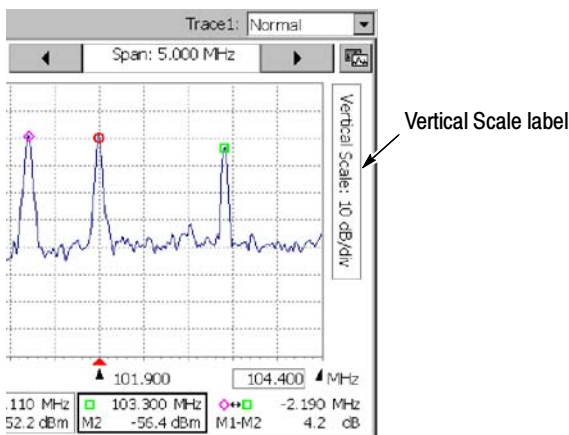

Figure 3-4: The Vertical Scale label
1. Tap the Vertical Scale label to assign Vertical Scale to the knob. See Figure 3-4.